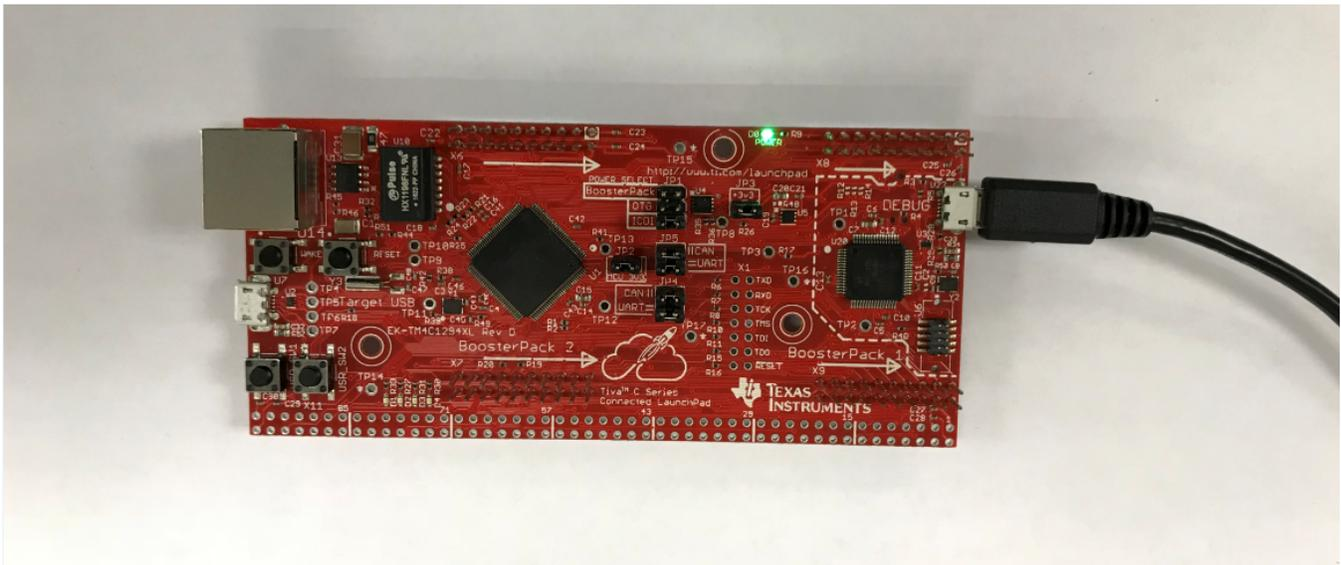

**Figure 5. TM4C1294 LaunchPad™ Development Kit Stellaris Virtual Serial Port and ICDI Driver**
4. Open the computer's "Device Manager". You must be able to see the "Stellaris Virtual Serial Port" and "Stellaris In-Circuit Debug Interface" as shown in Figure 5.